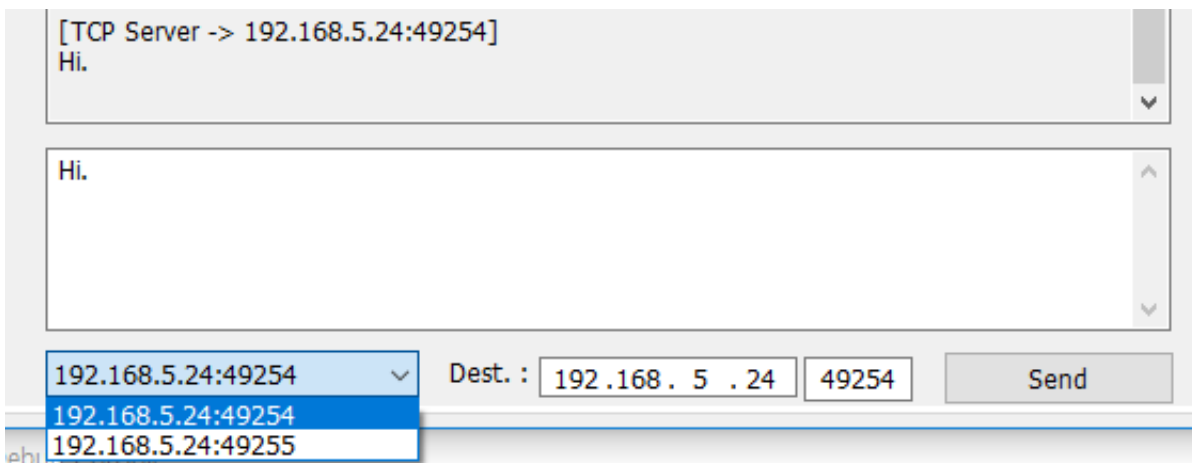

Figure 31: TCP Server Data Transfer
- **TCP Server:** Select the **TCP Server** checkbox → Select the destination IP in the drop-down list → Type a message → Click the **Send** button (see Figure 31)